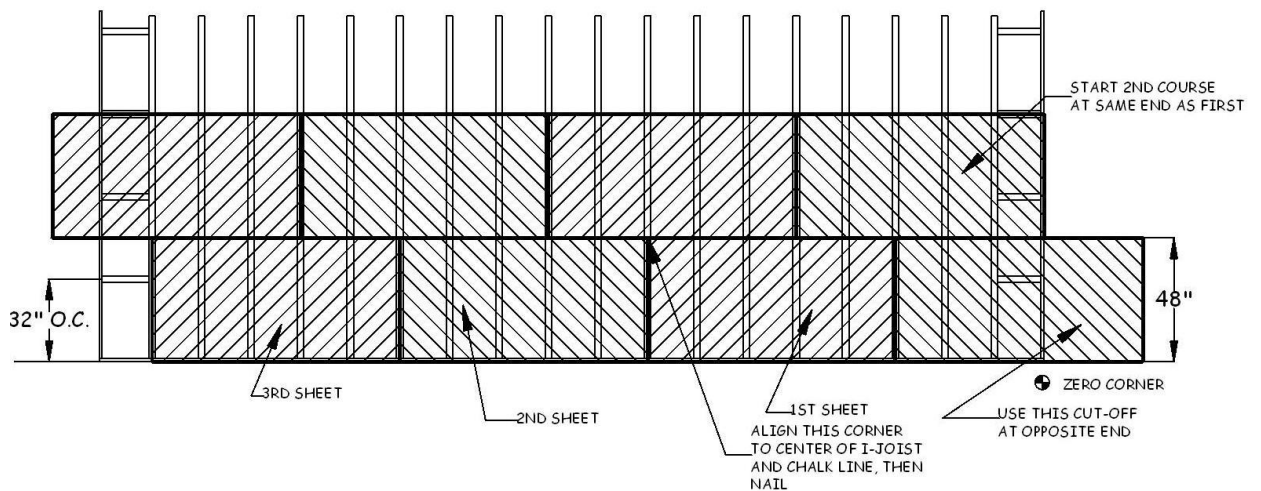

Figure 2-3. Floor Decking Layout.
7. When installing subsequent rows of decking, make sure to stagger the joints of the decking, preferably by two I-joists (see Figure 2-3).